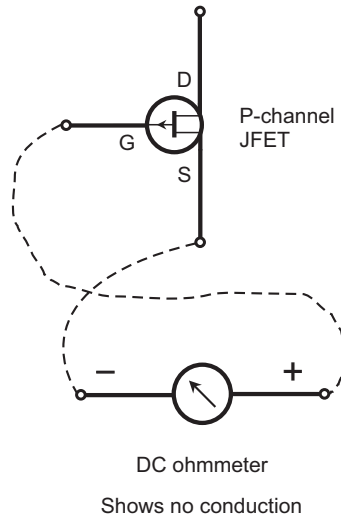

FIGURE 7-25 Electrons should not flow from the source to the gate.
2. Electrons should not flow from the source to the gate (Fig. 7-25).